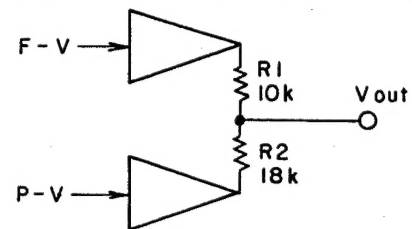

Fig. 10-9 (F-V) + (P-V) Circuit
This reference phase signal which has now been modulated into DC voltage is combined with the rotation speed DC voltage with the F-V modulator (via a buffer amplifier) and is output via pin (11) as the motor rotation control signal. It is then sent to the absolute value amplifier via IC PA2008 pin (6) (Fig. 10-9).